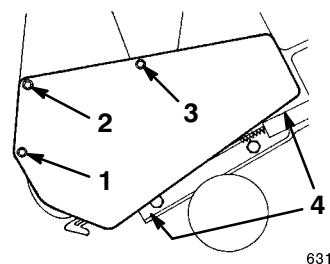

Figure 23
6. Remove the three self tapping screws, two cap screws, one washer, and two locknuts that secure the belt cover to the snowthrower frame (Fig. 23). Set the drive belt cover aside.